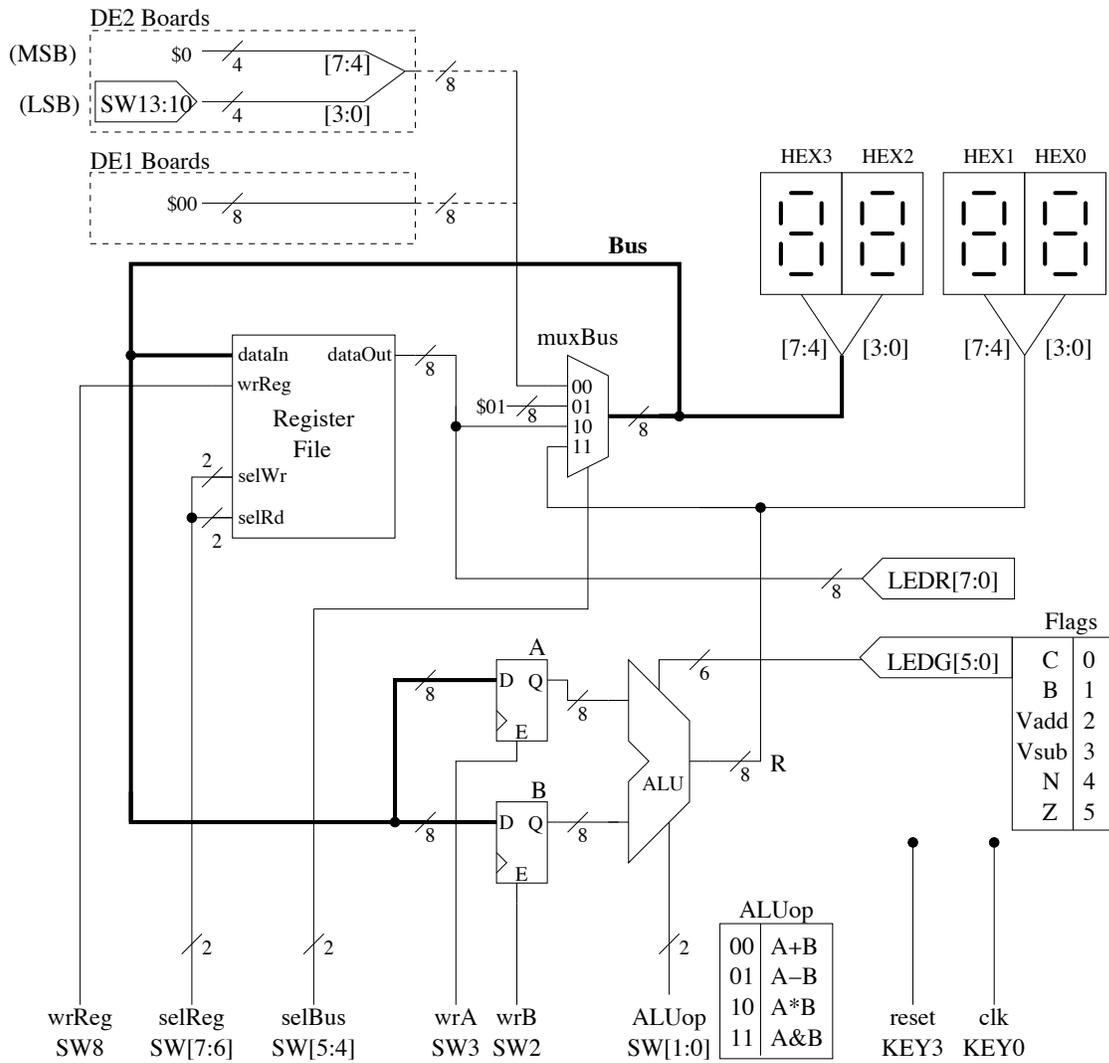

Figure C2. Computational Datapath circuit.
17. The **Computational Datapath** is shown in Figure C2. Download the programming file and program your board. Since this circuit can be fun, you might want to try the *permanent programming method* so it is always available at power-up. Notice this circuit contains an 8-bit version of the **ALU** from Part A and the **Register File** from Part B.